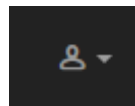

Figure 10. Partner Portal (Profile icon)
3. Hover the mouse cursor over the Profile icon in the upper right-hand corner of the web page (Figure 10 \(page 44\)). Click the **Account** option.